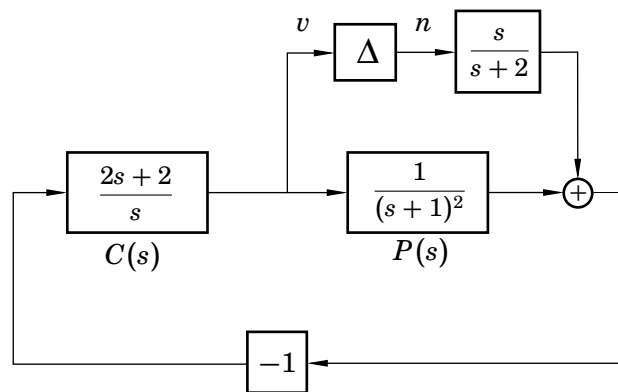

Figure 2.2 System in Problem 2.2.
- 2.2 Consider the system in Figure 2.2.